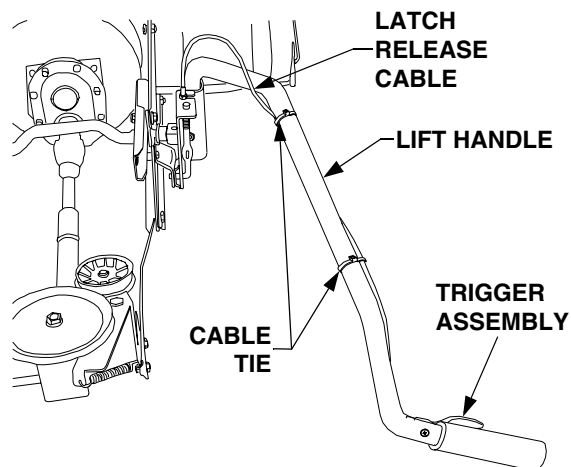

Figure 10
14. Route the latch release cable along the lift handle and secure the cable to the handle using two tie straps (11, Fig.2) as shown in Figure 10. Cut the excess from the tie strap ends.